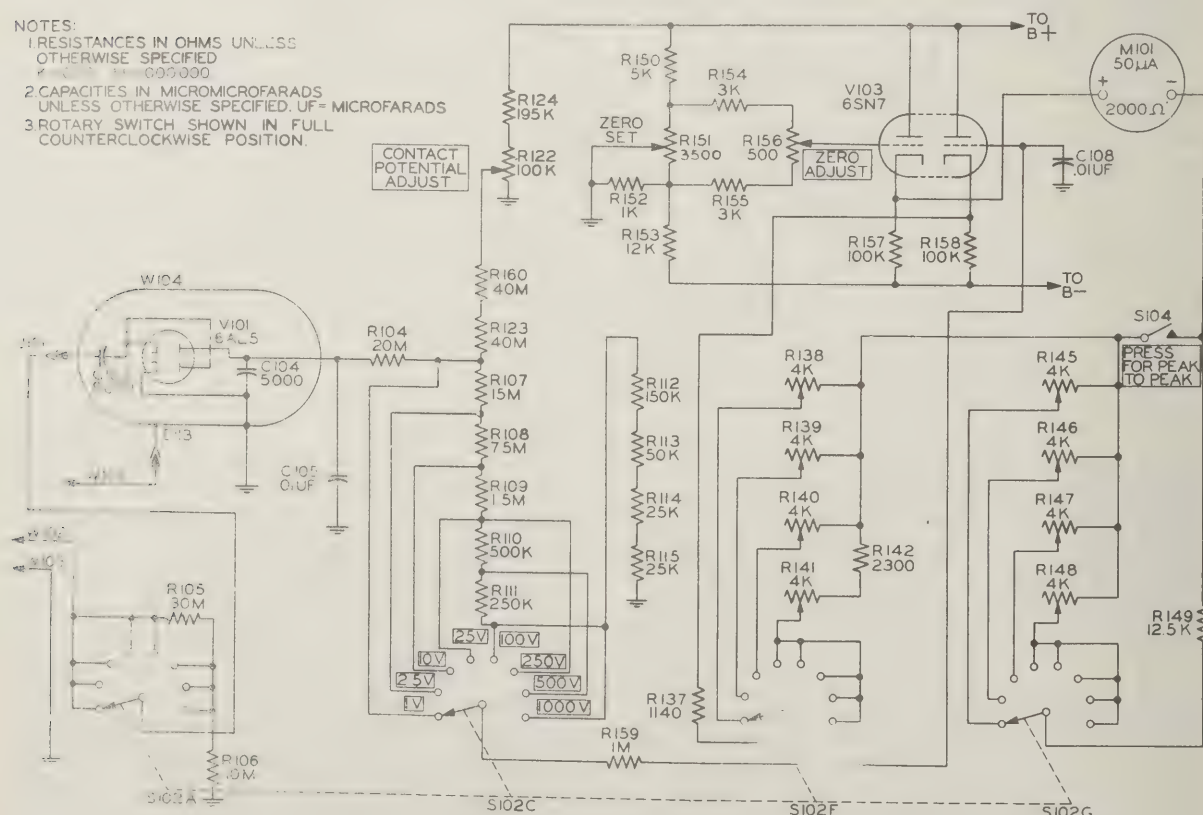

Figure 2-3. AC Voltmeter Circuit.
c. AC VOLTMETER CIRCUIT.—The portion of the circuits in Multimeter ME-25B/U used for AC voltage measurements is shown in figure 2-3. All AC voltages are rectified with tube V-101 in diode probe W-104 to produce a DC voltage equal to the peak-to-peak value of the applied AC voltage. The resulting